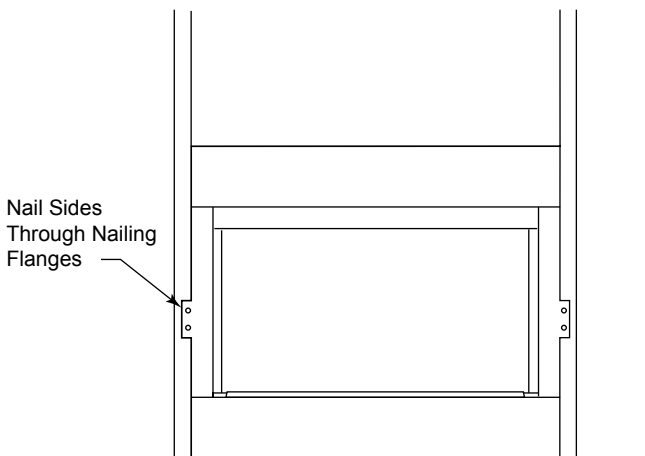

Figure 8 - Nailing Flanges
4. Anchor firebox to the side framing members using 8d nails or other suitable fasteners. *Figure 8*